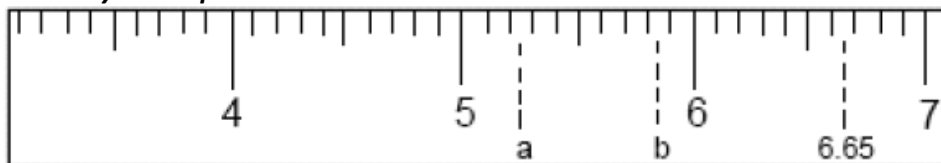

Figure 1. A portion of a metric ruler (the centimeter scale has been enlarged for ease in reading)
Distances are normally measured with a ruler. The limit of accuracy of a ruler is indicated by how "precisely" you can read the length on that ruler's scale—that is, how well you can estimate between the marks. On the portion of the ruler shown in Figure 1, the distance between the closest marks is 0.1 cm. The dotted line to the right of the meter stick is at a length of 6.65 cm. The last decimal place, the hundredth's place, in the measurement is **estimated**. Here is the key for determining the precision of most measuring devices:
On the ruler in figure 1, the closest marks are 0.1 cm apart, so you can estimate to the hundredths place, 0.01 cm. However, when looking at a metric ruler in the real world, the smallest marks (i.e. millimeter marks, mm) are so close that it is all we can do just to determine that the dotted line is between two of them—about half way. Therefore, your best estimate of the position of the dotted line is 6.65 centimeters. We can say that the measuring instrument is readable to ± 0.05 cm. The ± 0.05 cm means that your measurement may be off by as much as 0.05 cm above or below its true value. This value is called the **uncertainty or the precision** of the instrument.
1. What is the smallest scale increment of the ruler shown in fig. 1, above?
2. What distance is represented by dotted line "a" in Figure 1? How much uncertainty is there in this measurement?
3. What distance is represented by dotted line "b" in Figure 1? How much uncertainty is there in this measurement?